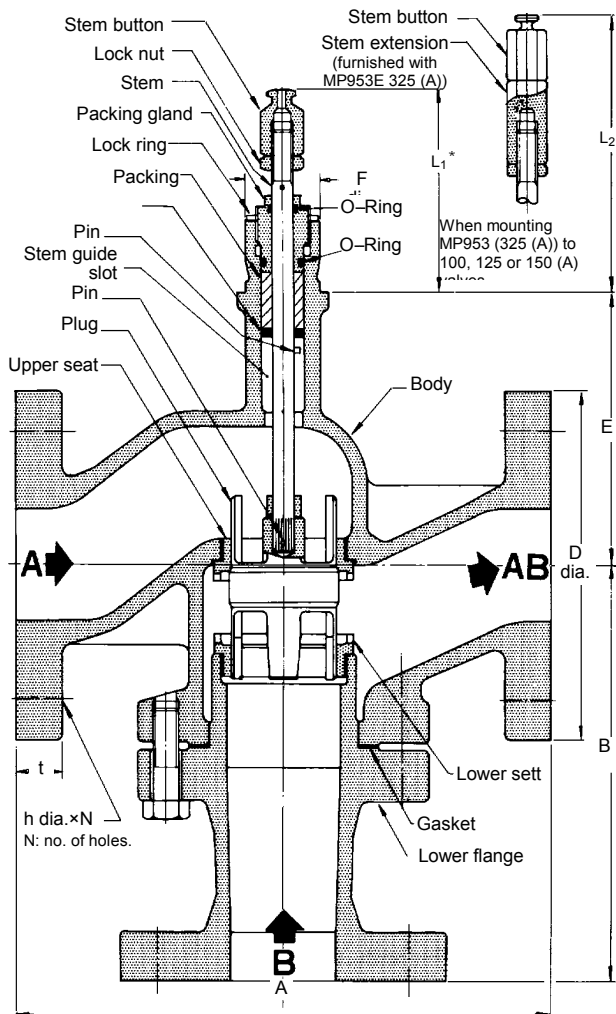

Fig. 5 Dimension (mm)
B. For Model MP953E 325 (A) remove the stem button from the valve and screw the stem button on the stem extension attached to the actuator. Screw the stem extension on the valve stem so that the stem button comes to the position specified in Fig. 5 L₂. To install the actuator, refer to the instruction of MP953 for details.